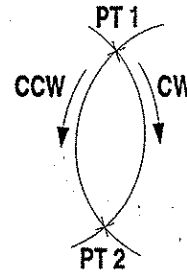

Figure B-54
**NOTE:** The direction of the arc must be specified as one of the parameters in this command. The direction is determined by moving around the arc from point 1 to point 2. The direction of this movement determines the direction of the arc. An example of this is shown in Figure B-54.